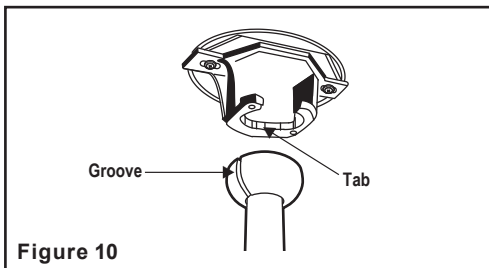

Figure 10
Step 9. Place the downrod ball into the hanger bracket socket. (Fig. 10)